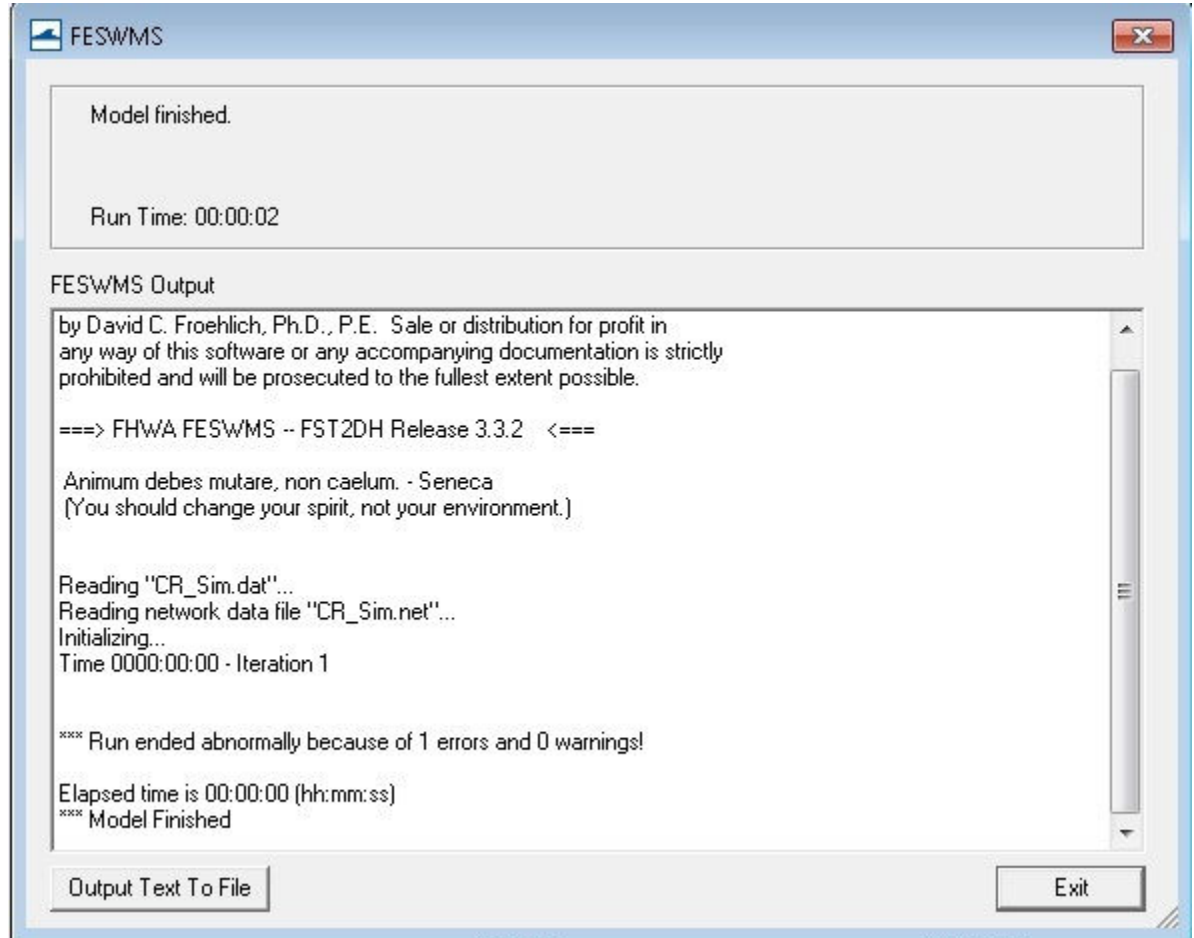

Figure 5. Output from running *CR\_Sim.fpr*.
*FST2DH* will run iteration 1 and diverge. At the bottom of the *FESWMS Output* window is the text “\*\*\*Run ended abnormally because of 1 errors and 0 warnings!” as shown in Figure 5. This is how *FST2DH* declares that it has not successfully converged.